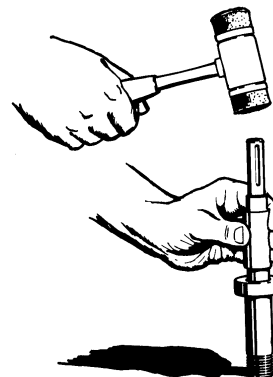

Figure 4-25
- Insert the shaft into the pipe so the bearing is between the pipe and the shoulder of the shaft. Refer to Figure 4-25.